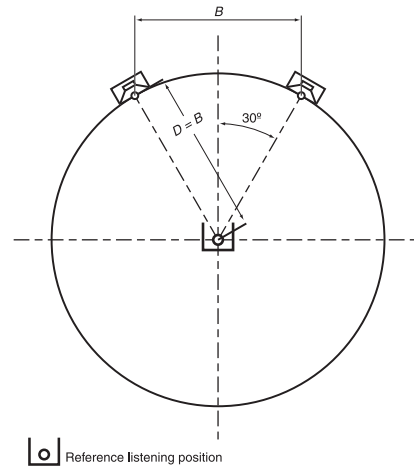

Figure 2
6. Our recommended position for the nearfield monitors is based on an ITU standard and sets the speakers at 60 degrees from the listener, forming an equilateral triangle (a triangle with equal sides) - **See Figure 2**. Fortunately, this setup eliminates most of the math and is easily simplified to the following guidelines: If you want to sit 1 meter (39.37 inches) from the monitors, place the speakers 1 meter apart. If you want to sit 6 ft. from the monitors, place the speakers 6 ft. apart. Etc. Ideally your monitors should be at seated ear height. If this is not possible, tilting the cabinet at the listening area can improve high-frequency coverage.
10. It is now time to set the Variable Cutoff Frequency on the back of the SUB 15 Universal to best match your monitoring system (if you are using the SUB 15 Universal with Blue Sky monitors, set the Filter Selector Switch to "BLUE SKY" and skip to item 11). To determine the proper filter setting on the SUB 15 Universal, you first need to know the cutoff frequency of your monitors. This can typically be
Figure 2: The SUB 15 Universal's XLR inputs can handle up to +24dBu of signal level at the input and are compatible with most, if not all professional gear. Additional adaptor cables can be purchased from most professional audio dealers, so that the SUB 15 Universal can be used with other output types (TRS, RCA etc.)